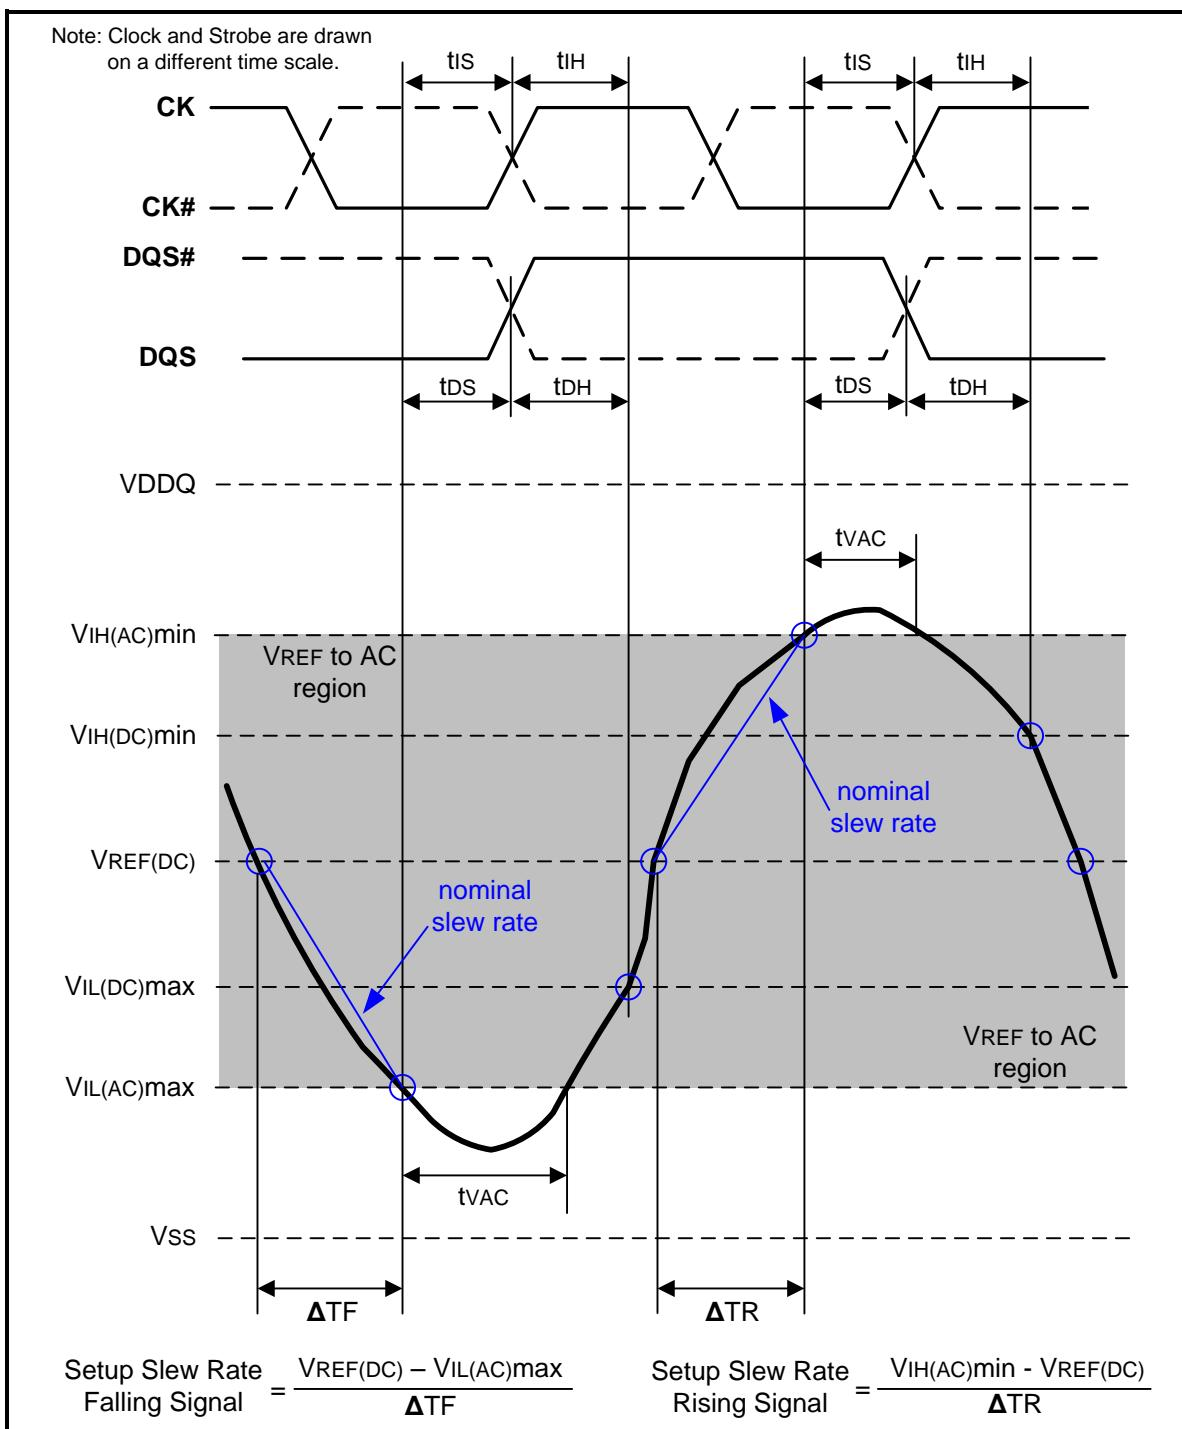
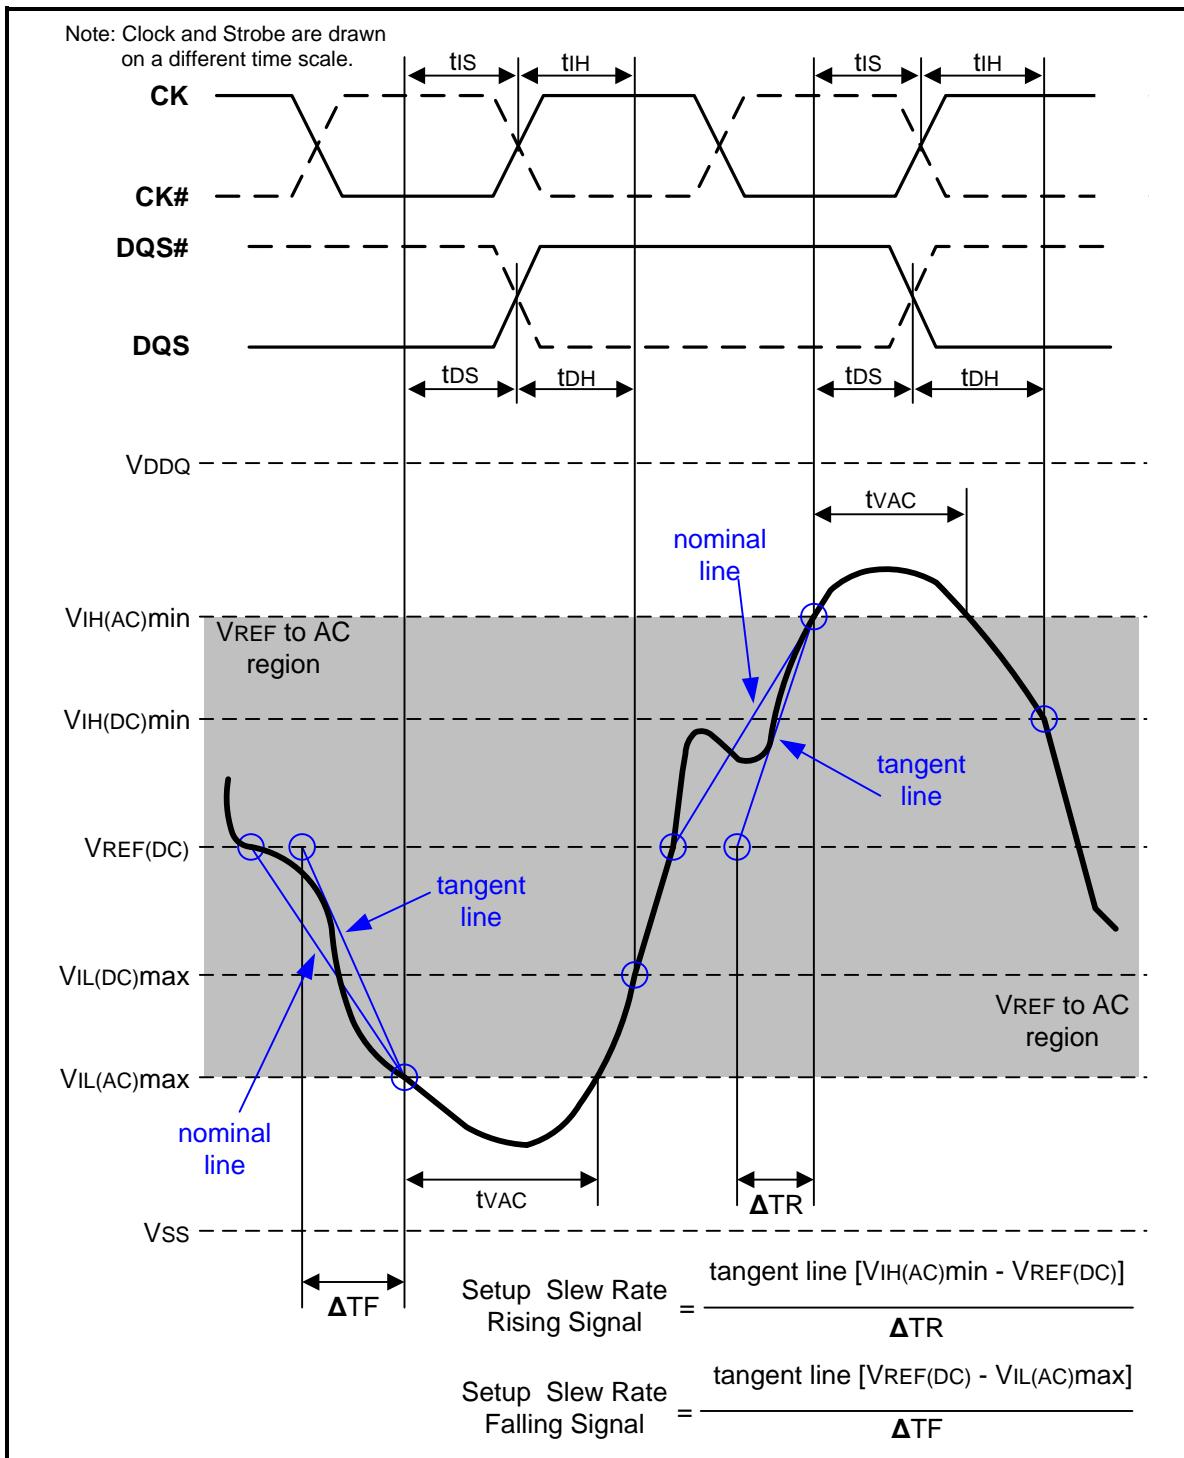

Figure 107 – Illustration of nominal slew rate and t_{VAC} for setup time t_{DS} (for DQ with respect to strobe) and t_{IS} (for ADD/CMD with respect to clock)
Figure 109 – Illustration of tangent line for setup time t_{DS} (for DQ with respect to strobe) and t_{IS} (for ADD/CMD with respect to clock)
Setup (tIS) nominal slew rate for a rising signal is defined as the slew rate between the last crossing of VREF(DC) and the first crossing of VIH(AC)min. Setup (tIS) nominal slew rate for a falling signal is defined as the slew rate between the last crossing of VREF(DC) and the first crossing of VIL(AC)max. If the actual signal is always earlier than the nominal slew rate line between shaded 'VREF(DC) to AC region', use nominal slew rate for derating value (see Figure 107). If the actual signal is later than the nominal slew rate line anywhere between shaded 'VREF(DC) to AC region', the slew rate of a tangent line to the actual signal from the AC level to DC level is used for derating value (see Figure 109).
Setup (tDS) nominal slew rate for a rising signal is defined as the slew rate between the last crossing of VREF(DC) and the first crossing of VIH(AC)min. Setup (tDS) nominal slew rate for a falling signal is defined as the slew rate between the last crossing of VREF(DC) and the first crossing of VIL(AC)max (see Figure 107). If the actual signal is always earlier than the nominal slew rate line between shaded 'VREF(DC) to AC region', use nominal slew rate for derating value. If the actual signal is later than the nominal slew rate line anywhere between shaded 'VREF(DC) to AC region', the slew rate of a tangent line to the actual signal from the AC level to DC level is used for derating value (see Figure 109).